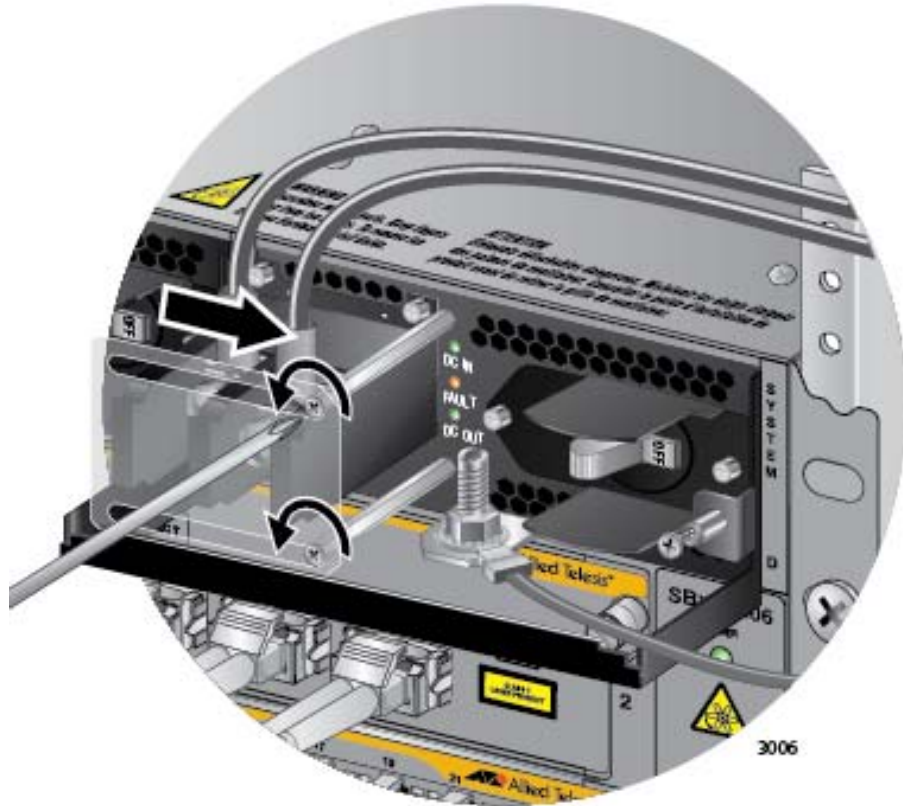

Figure 171. Opening the Plastic Window on the Terminal Block
4. Use a #1 screwdriver to loosen the two screws that secure the plastic cover over the terminal block and slide the cover to the right. You may need to slightly lift the locking handle to access the bottom screw. Refer to Figure 171.